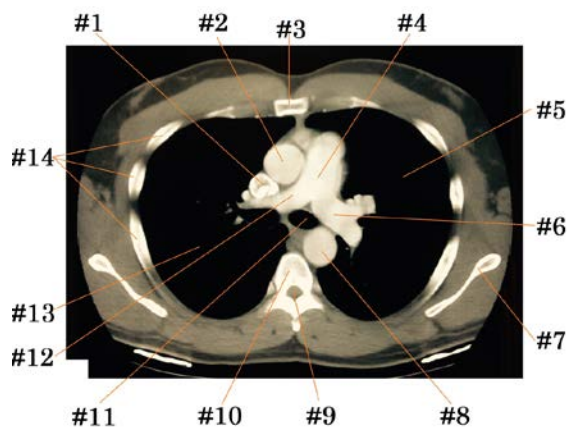

Figure 3-26. CT axial cross-sectional image of the thoracic region.
5. Identify the thoracic cross-sectional anatomy displayed in figure 3-26.